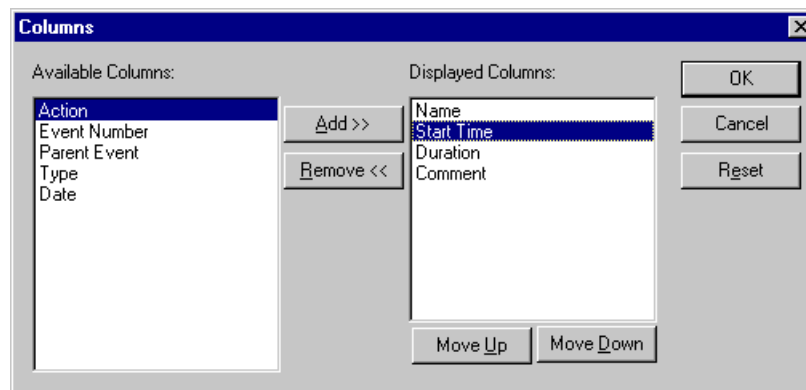

Figure 135. Columns dialog box
1. Choose **View | Columns** and Columns dialog box (Figure 135).